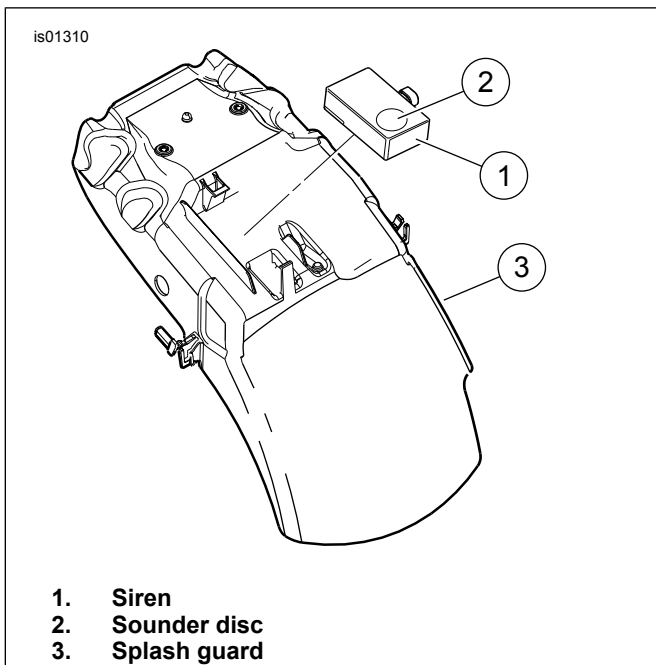

Figure 11. 2006-2007 VRSCR Models
11. Insert connector [142B] (2) into siren (1) until connector latches securely.
12. See Figure 11. With sounder disc (2) facing out, clip siren (1) onto splash guard (3) as shown.